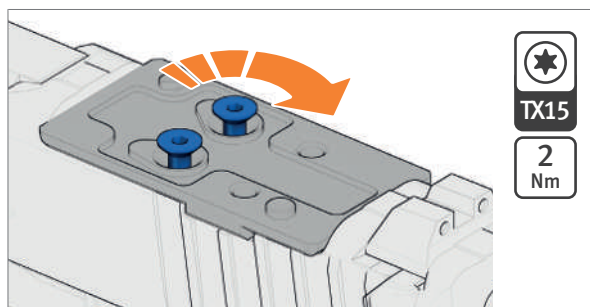

Fig. 42: Tighten screws
5. Tighten screws until the torque is reached (Fig. 42).